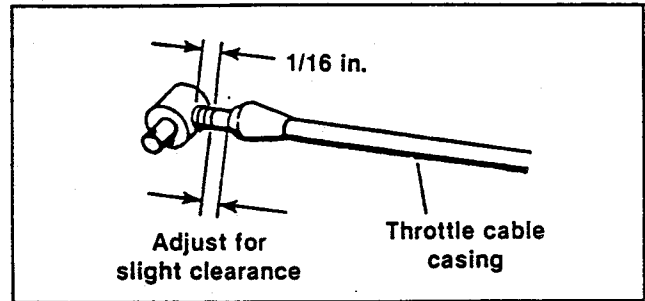

Figure 6-6. Throttle Closing Adjustment
2. Remove the cotter pin (1) and washer (2). Then remove the swivel block (3) from the accelerator pedal bracket.
3. Unscrew the locknut (4), swivel block (3) and shield tube (5) from the threaded end of the cable (6).
4. Thread the swivel block (3) back onto the cable (6) so there is only 1/16 in. of thread showing at the casing end. See Figure 6-6. Temporarily re-install the swivel block to the accelerator pedal bracket.
5. See Figure 6-6. With the accelerator pedal fully depressed, the threads on the cable end must not enter the seal on the end of the cable casing.
2. See Figure 6-6. Remove the cotter pin (1) and
3. See Figure 6-6. Remove the lock nut (4), swivel block (3) and shield tube (5) from the cable (6). Remove the two screws (8) from bracket (9).